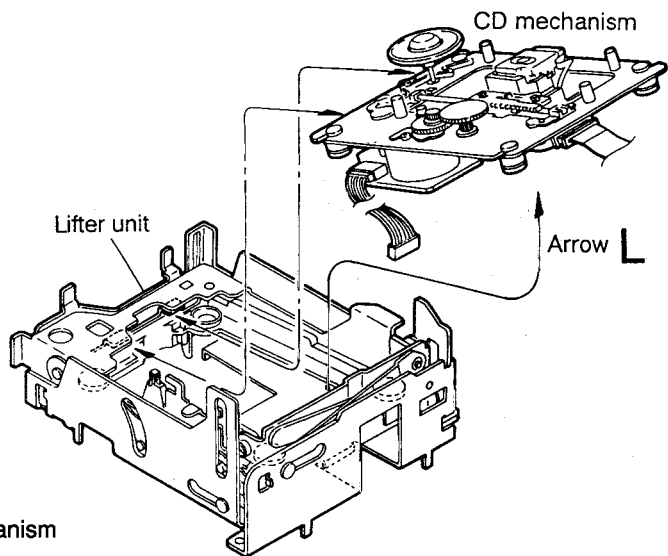

Fig.5-46
2. By raising the CD mechanism assembly in the arrow direction "L", remove the assembly from the lifter unit (Fig. 5-46).